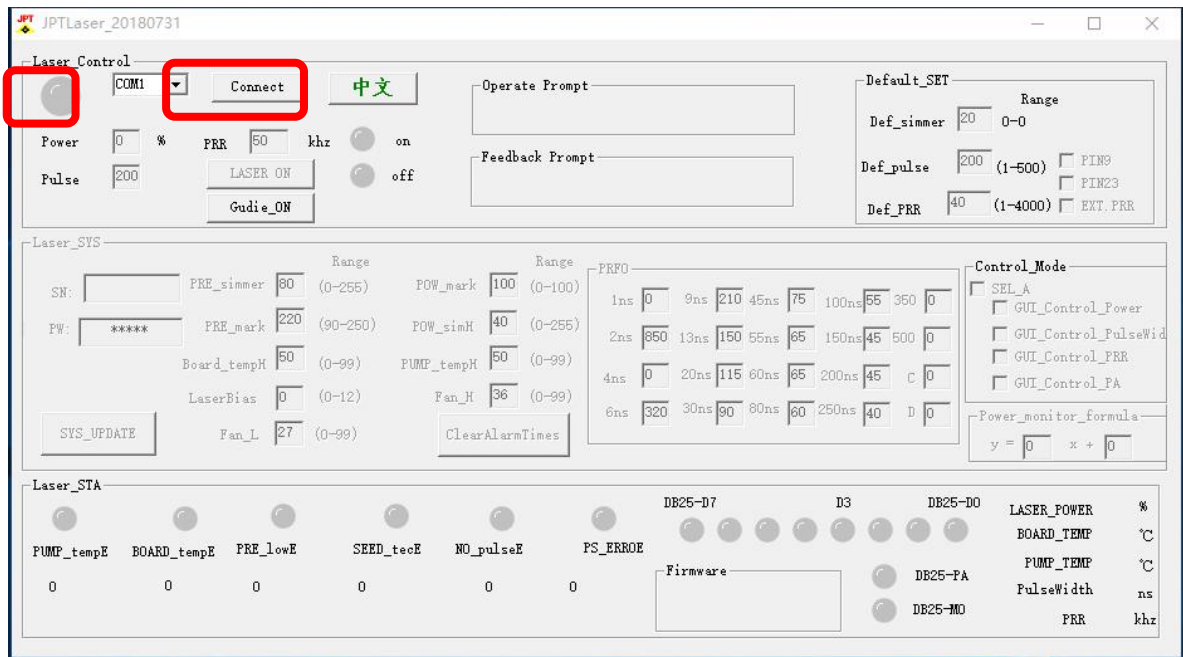

Figure 14 GUI Disconnected State
- The Pin22 signal needs to be turned on 10us in advance before sending Pin2 and Pin3 signals. After finished pulse width adjustment, Pin2 and Pin3 signals need $\geq 10\mu\text{s}$ delay before turning off Pin22 signal (as shown in Figure 14).